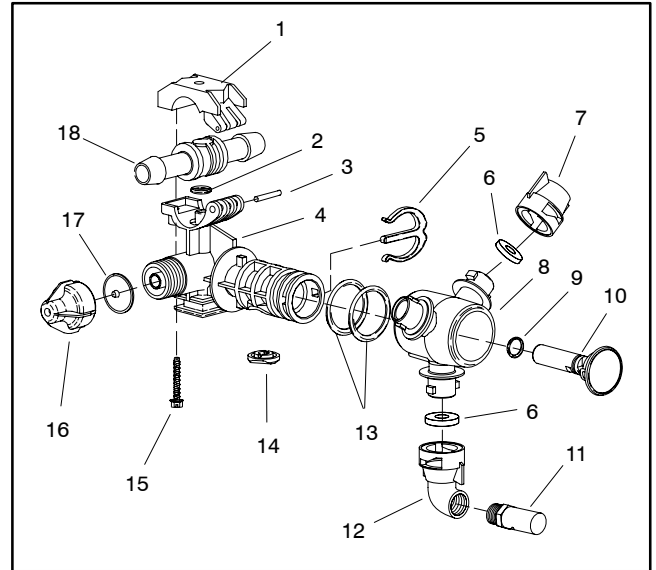
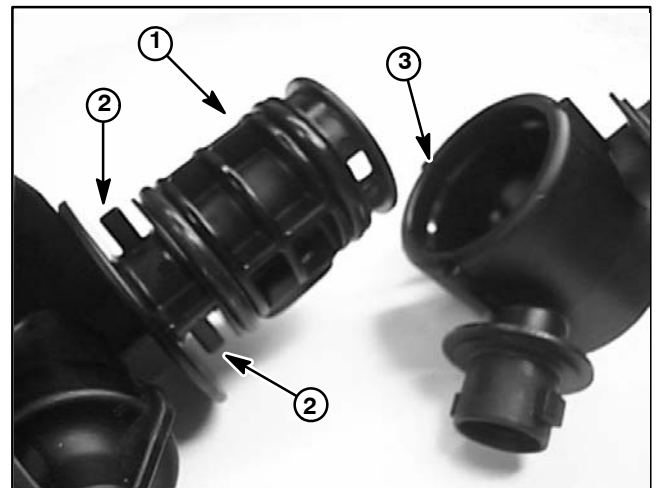

Figure 36
Figure 37
Disassembly (Fig. 36)
2. Disassemble turret body using Figure 36 as a guide.
Assembly (Fig. 36)
- A. The turret (item 8) end with slightly larger bore and detent grooves needs to be orientated toward detent posts on body (item 4) (Fig. 37).
- B. Make sure to align notch on plug (item 10) with groove in body (item 4) as plug is installed.
- C. Install e-clip (item 5) into body to secure assembly.
2. Assemble turret body using Figure 36 as a guide.